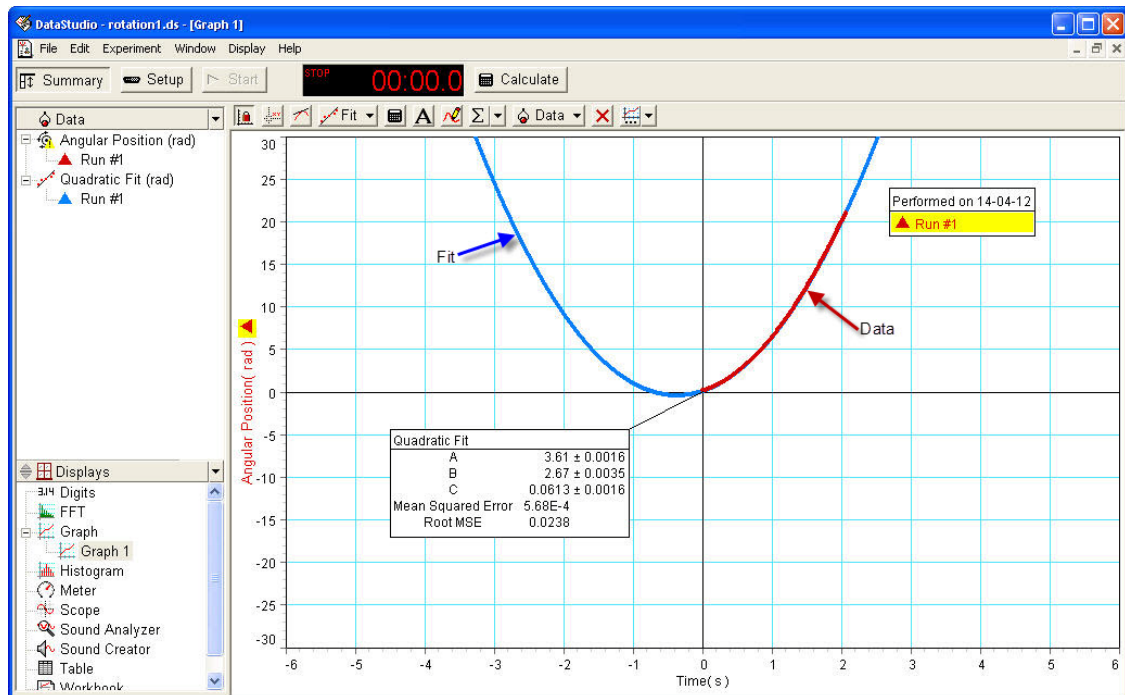
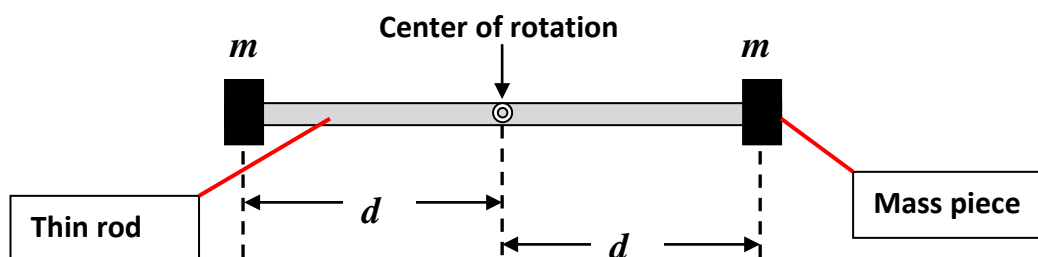

Figure 6
Figure 7
9. Your data will look like the red curve in Figure 6. It doesn't matter if you get the curve running downward or upward. Click on the **Fit** button in **DataStudio** and then select **Quadratic Fit**. The blue curve in Figure 6 shows the FIT, however the FIT also will be in red (NOT blue) in your case; it is shown in blue here in Figure 6 for clarity. The fitting parameter A is related to the angular acceleration α of the rigid body, through $\alpha = 2 |A|$.
A dumbbell is shown in Figure 7. It consists of a thin rod and two mass pieces of mass m each, attached to the rod symmetrically.
6. Your data will look like the red curve in Figure 6. Click on the **Fit** button in **DataStudio** and then select **Quadratic Fit**. The blue curve in Figure 7 shows the fit. The fitting parameter A is related to the angular acceleration α of the rigid body, through $\alpha = 2 |A|$.